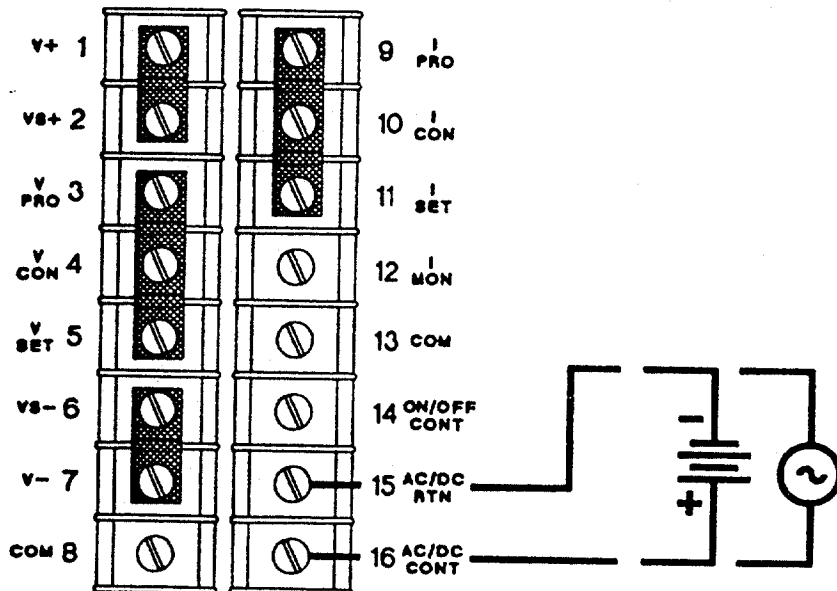

FIGURE 3-9
- (2) Remote on/off control may be accomplished by an external AC voltage of 12 to 240 VAC or an external DC voltage of 6 to 120 VDC. See Figure 3-9 for strapping requirements. Application of AC or DC voltage will turn on the power supply.